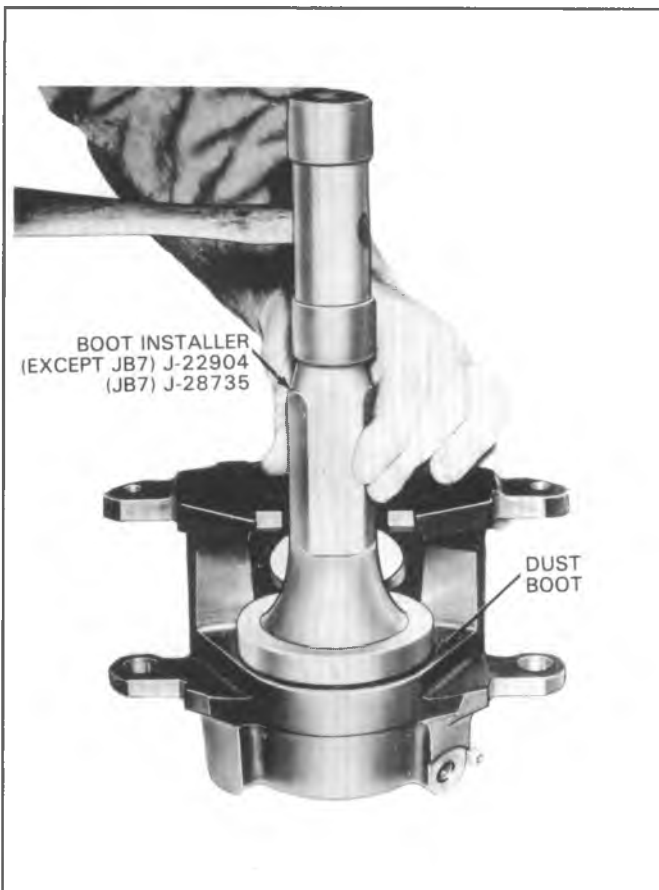

Fig. 5-38--Seating Boot
1. Lubricate the bore in the caliper and the new piston seal with clean brake fluid. Position the seal in the caliper bore groove. Lubricate the piston with clean brake fluid and assemble a new boot into the groove in the piston so that the fold faces the open end of the piston. Insert the piston into the caliper bore, using care not to unseat the seal and force down to the bottom in the bore. This will require a force of 50 to 100 pounds (220 to 440 N). Position the outside diameter of the boot in the caliper counterbore and seat with Tool J-22904 (fig. 5-38).